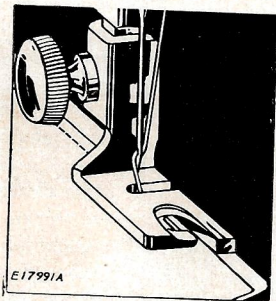

FIG. 40. MAKING A FELLED SEAM
(1) Place the right sides of the material together, having the edge of the upper piece about $\frac{1}{8}$ inch to the left of the edge of the under piece. Stitch the two pieces together, using the hemmer as a presser foot. Guide both pieces by the projecting toe of the hemmer, as shown in Fig. 40.